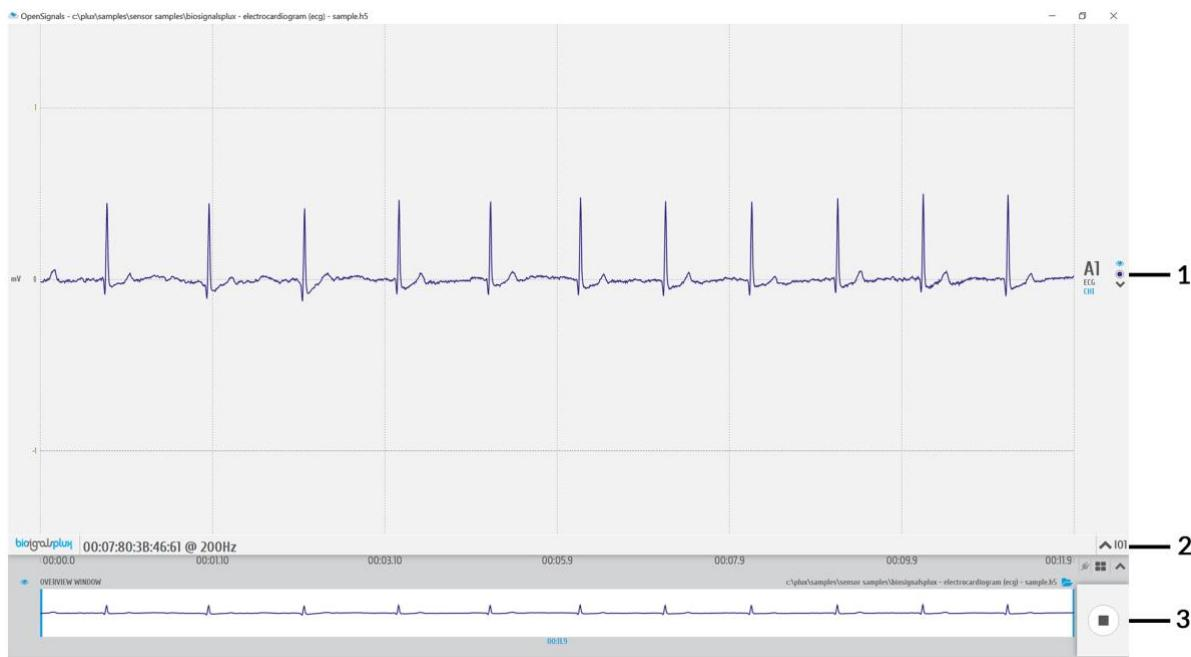

Figure 70: Sections of the visualization mode.
- Signal visualization (1 in Figure 70; see section 3.2.2 Signal Visualization)
- Information bar (2 in Figure 70; see section 3.2.3 Information Bar).
- Control bar (3 in Figure 70; see section 3.2.4 Control Bar)